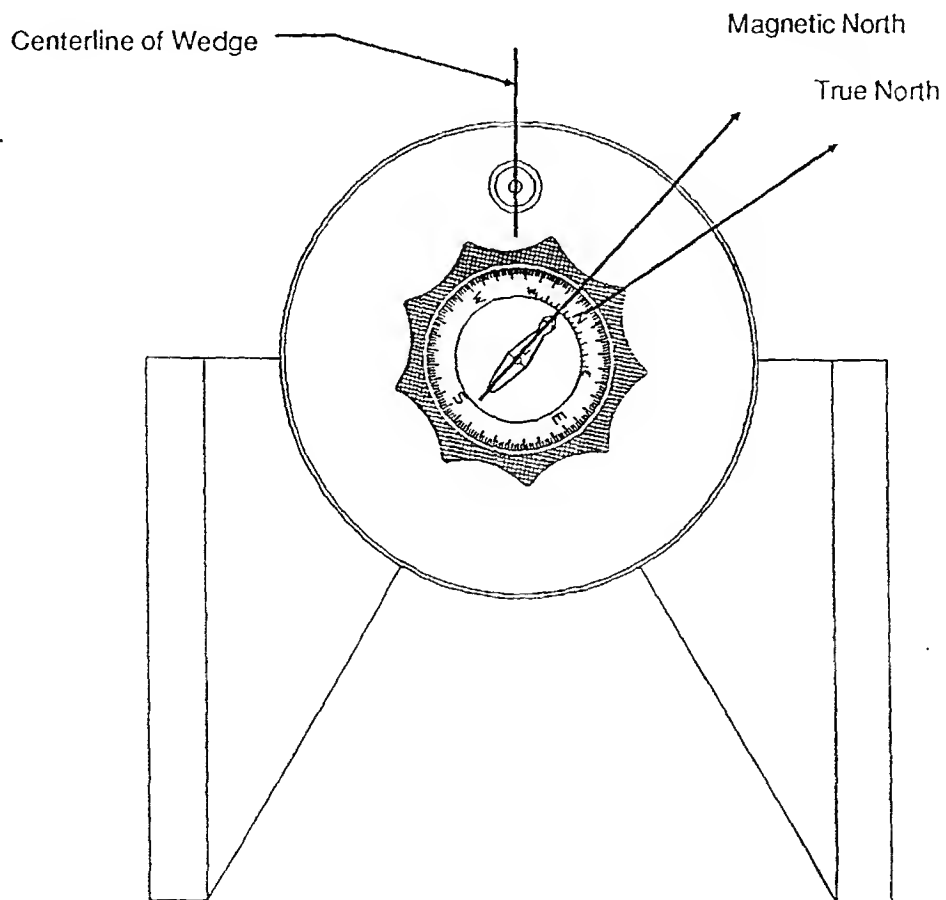

Fig. 6: Equatorial Wedge
2. Rotate the knob/compass so that the magnetic pointing arrow lies directly over the painted black alignment arrow (Fig. 6). The "North" position on the direction scale (and the point on the knob/compass) now point directly north.